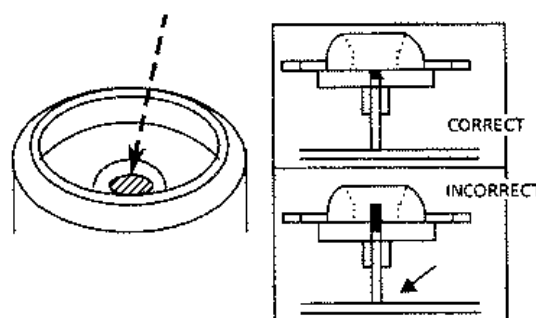

Fig.10
4. After inserting the turntable, bond the motor shaft and turntable together (at the section marked by an arrow in fig. 10 on the left below).
5. Use "LOCKTITE" #460 bonding agent, and apply as little as possible. Take care not to allow any excess bonding agent to get onto the turntable. Be extremely careful not to allow bonding agent to adhere to the motor bearings (the section marked by an arrow in fig. 10 on the right).